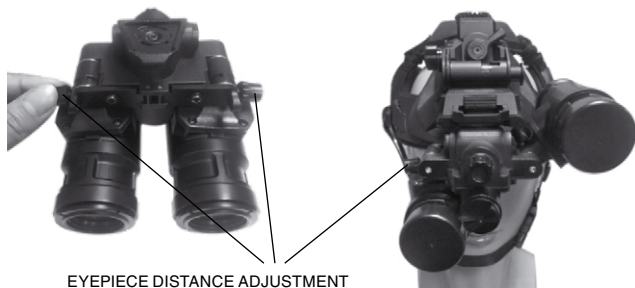

FIGURE 2.16. INTERPUPILLARY ADJUSTMENT
(10) In order to adjust the interpupillary adjustment to be in line with the distance between your eyes. Use the side knobs as illustrated in Figure 2.16.